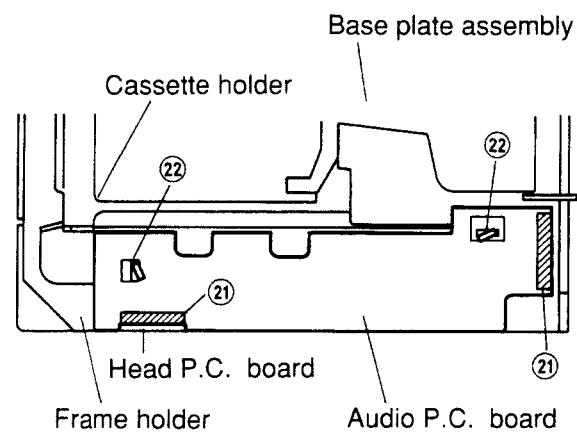

Figure 16
- (1) Remove two solders ②① and remove the parallel wire (7P) and the head P.C. board as shown in Figure 16.
- (2) Adjust the two claws ②② to the rectangular holes on the P.C. board and remove the P.C. board as shown in Figure 16.
- (3) After replacement, mount the new P.C. board following the removal steps in the reverse order.